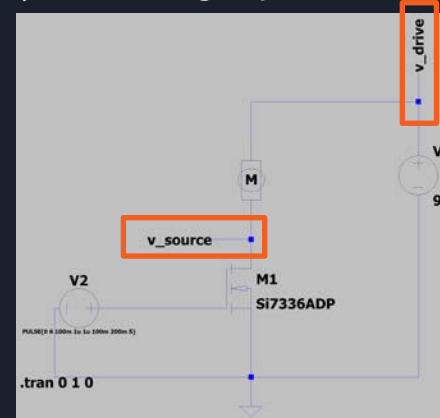

Figure 17.
- **Question 4:** After completing the circuit, run simulation with Stop time=1 and Time to start saving data=0. Probe the voltage at node v_source and v_drive as shown in figure 17. Save and submit the resulting simulation waveforms and write down your observations.